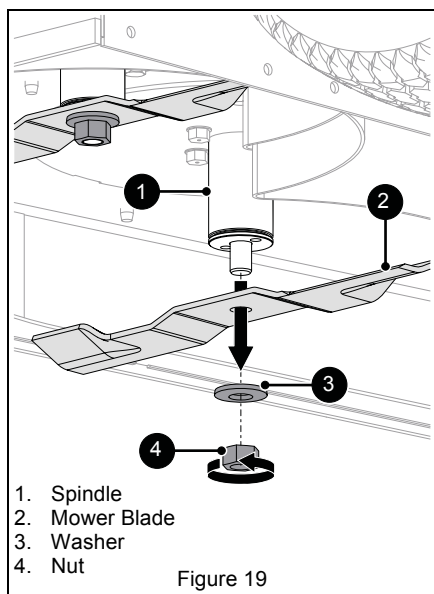

Figure 19
See Figure 19.
1. Reinstall blades, washers and nuts on spindles. See Figure 19.